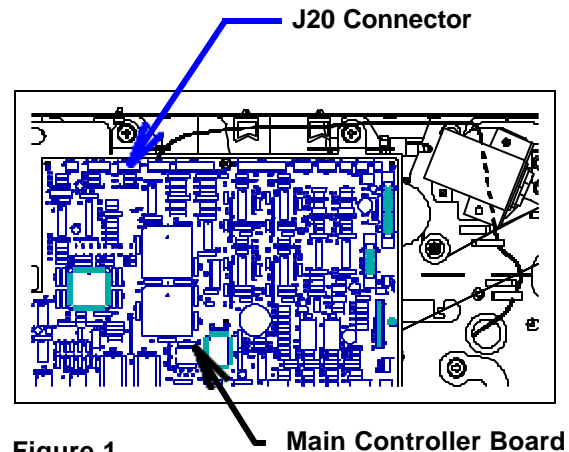

Figure 1 Main Controller Board
5. Unplug the Post-Mag Sensor cable from J20 connector, located on the Main Controller Board. (Figure 1)